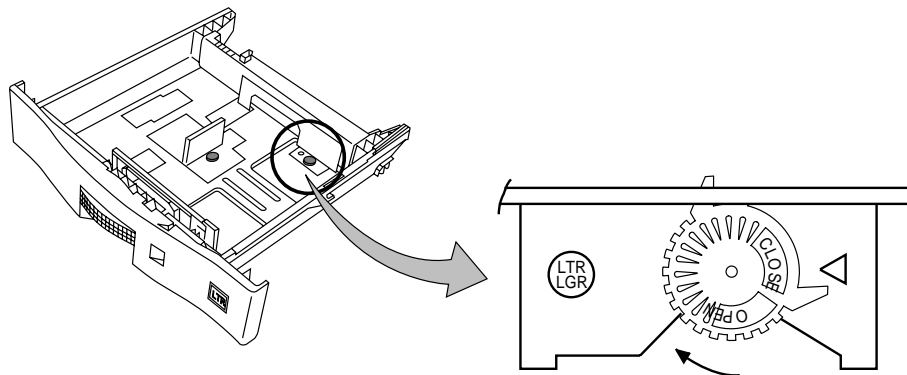

Figure 3-8 Securing the paper guide
4. Turn the blue locking thumbwheels on each paper guide clockwise to the CLOSE position to secure it. (Figure 3-8).